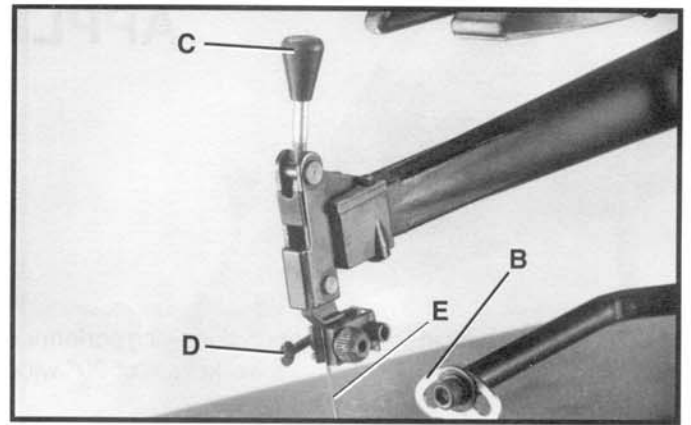

Fig. 43
Reassemble blade (E) Fig. 43, back into the upper blade holder and tighten blade by moving lever (D) forward. Move tension lever (C) to the rear as shown and lower spring holddown (B). You are ready to make the next inside cut.